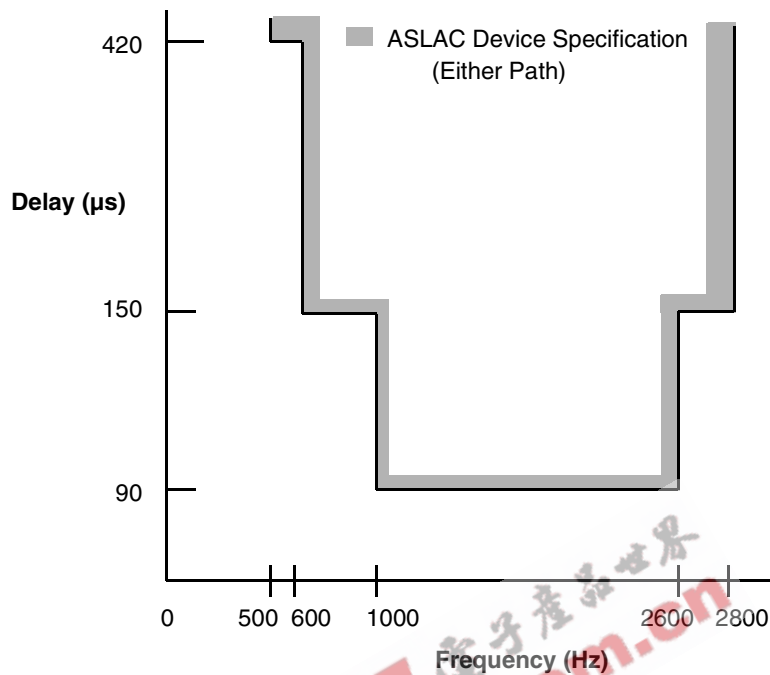

Figure 2. Group Delay Distortion
14. The group delay specification is defined as the sum of the minimum values of the group delays for the transmit and the receive paths when the transmit and receive time slots are identical and the B, X, R, and Z filters are disabled with null coefficients. For PCLK frequencies between 1.03 MHz and 1.53 MHz, the group delay may vary from one cycle to the next. See also Figure 2, Group Delay Distortion.
For either transmission path, the group delay distortion is within the limits shown in Figure 2. The minimum value of the group delay is taken as the reference. The signal level should be -10 dBm0.